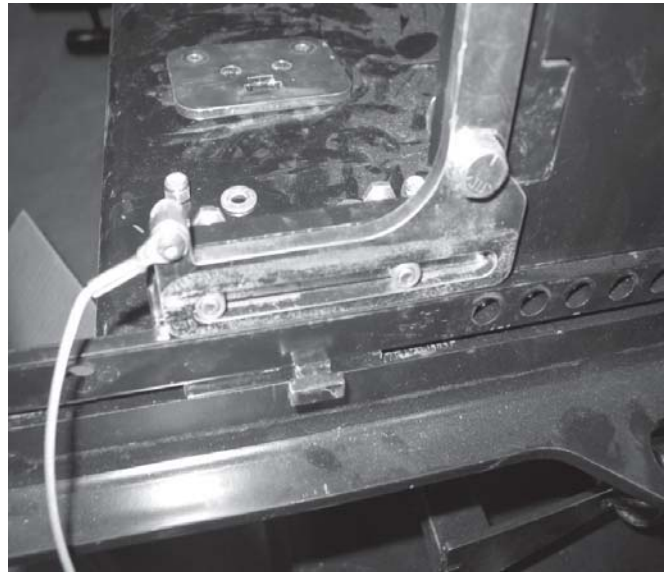

Figure 23 Push 1/4" bolts and spacer back flush
25. Carefully push bolts back through until they are flush with the latch bracket. See Figure 23.